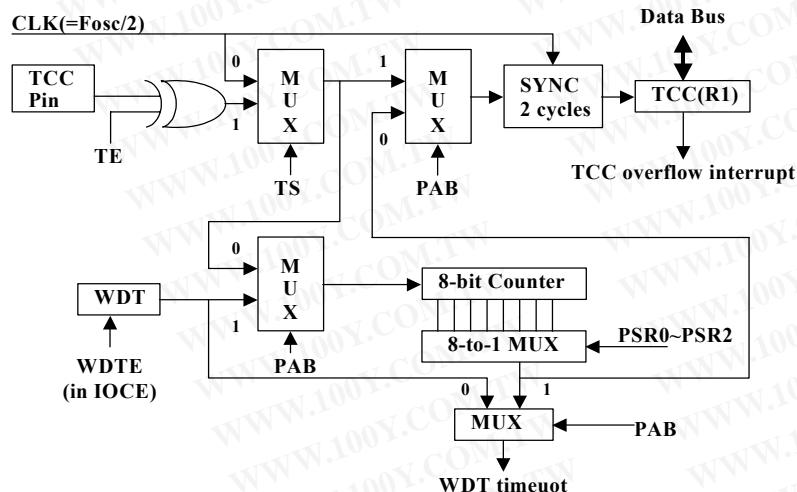

Fig. 6 TCC and WDT Block Diagram
An 8-bit counter is available as prescaler for the TCC or WDT. The prescaler is available for either the TCC or WDT only at any given time, and the PAB bit of the CONT register is used to determine the prescaler assignment. The PSR0~PSR2 bits determine the ratio. The prescaler is cleared each time the instruction is written to TCC under TCC mode. The WDT and prescaler, when assigned to WDT mode, are cleared by the "WDTC" or "SLEP" instructions. Fig. 6 depicts the circuit diagram of TCC/WDT.
- R1 (TCC) is an 8-bit timer/counter. The clock source of TCC can be internal or external clock input (edge selectable from TCC pin). If TCC signal source is from internal clock, TCC will increase by 1 at every instruction cycle (without prescaler). Referring to Fig. 6, $CLK = Fosc/2$ or $CLK = Fosc/4$ selection is determined by the CODE Option bit CLK status. $CLK = Fosc/2$ is used if CLK bit is "0", and $CLK = Fosc/4$ is used if CLK bit is "1". If TCC signal source comes from external clock input, TCC is increased by 1 at every falling edge or rising edge of TCC pin.